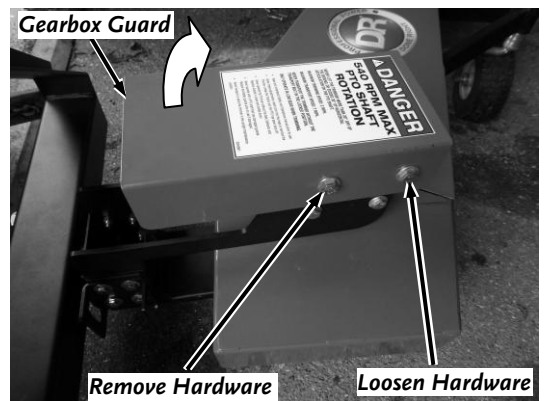

Figure 8
- Remove the front Bolt, Washers and Locknut from the Gearbox Guard with two 11/16" Wrenches (**Figure 8**).